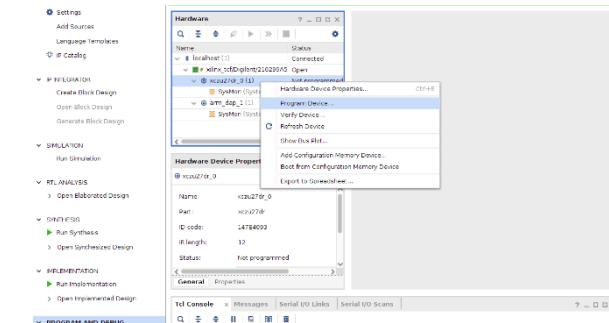
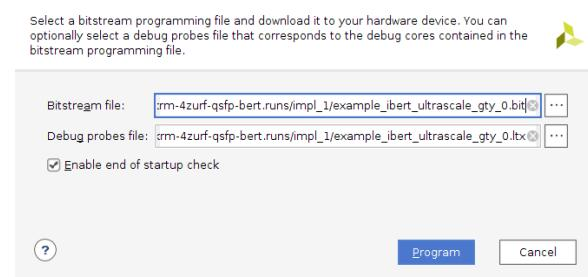

Figure 15. Vivado Program Device
Figure 16. Load bitstream with debug probes
4. Load the FPGA bitstream and debug probes following the steps on Figure 15 and Figure 16.